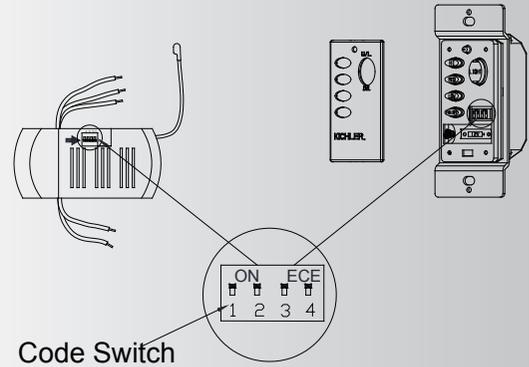

Fig. 29
**Step 3.** You can leave the frequency switches at the factory setting. Or you have to change the dip switch setting in the remote if you are using more than one fan in the same area and want to control them separately. Remove the battery and change the dip switch setting, assuring that they are different from the other fans. Reinstall the battery and switch plate on the control. (Fig. 29)